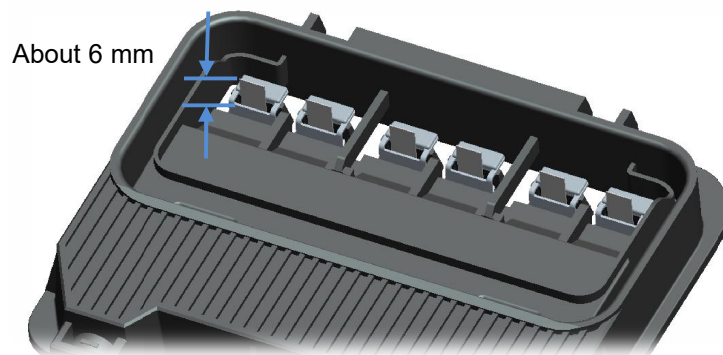
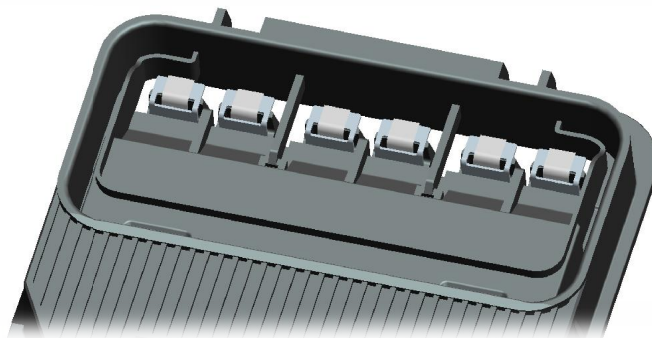

Figure 7
Figure 8
- Type 2: Insert the PV ribbons through correlated contact slots. Reference length of the PV ribbon is 6mm from the conductive contact as shown in Figure 7. Bend the PV ribbons, see Figure 8.